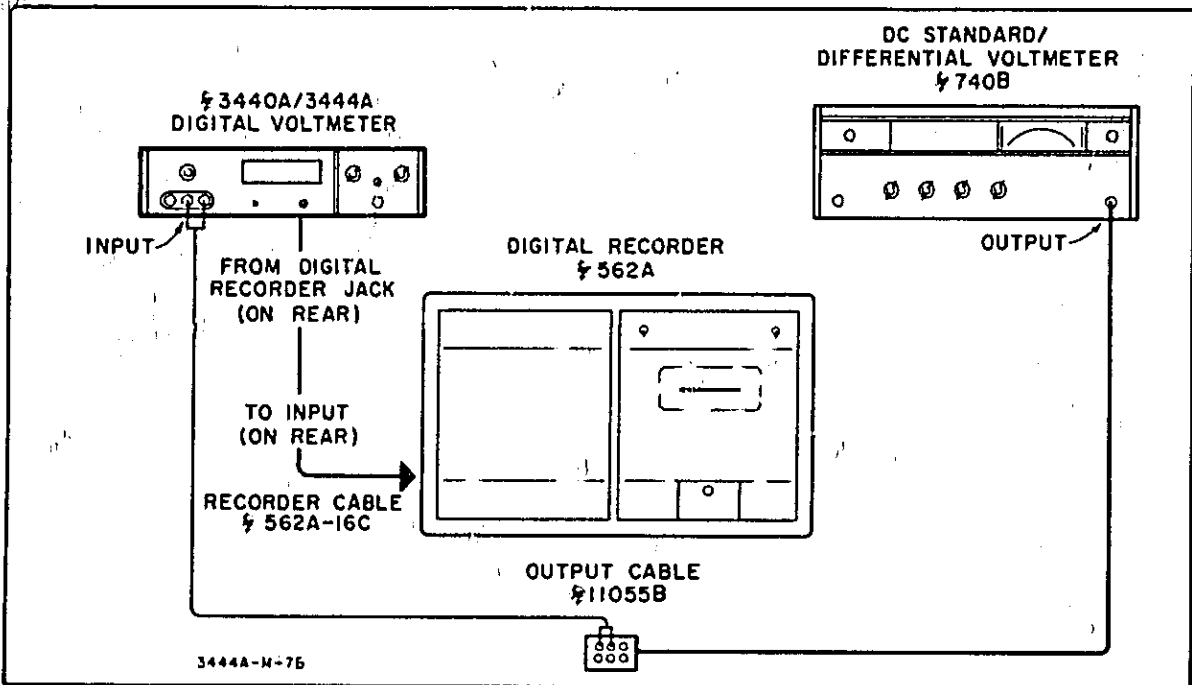

Figure 5-4. Digital Recorder Output Check
- a. Connect equipment as shown in Figure 5-4.